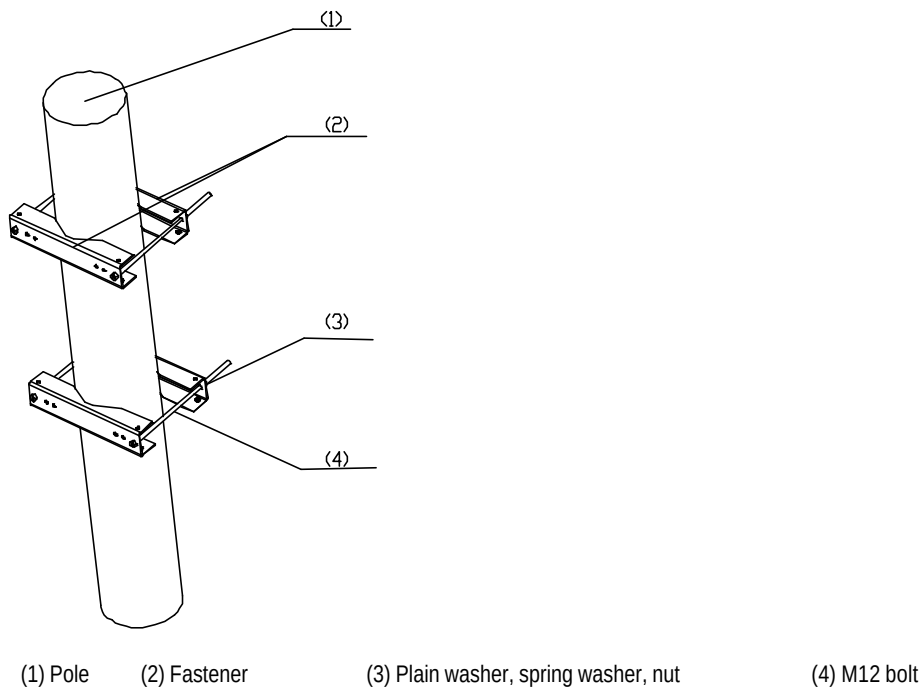

Figure A-7 Fixing fastener
- 1) Lean the fastener to the pole and fasten the beam to let the pole be in the middle of the pole. Then fasten the beam with bolt and nut. Refer to Figure A-7 below.